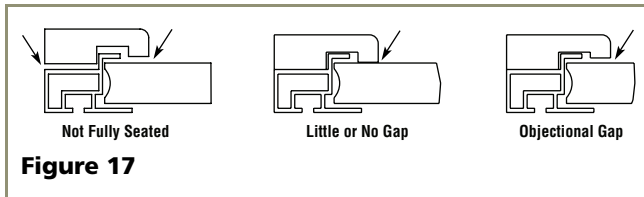

Figure 17
1. Turn door over and lay overlay frame on front side of door. Make sure frame is fully seated on all four sides. See **Figure 17**.